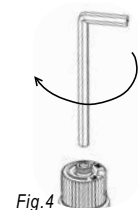

Fig. 4
- 13) Using the Allen wrench as shown in Fig. 4, rotate the screw clockwise until snug, do not overtighten.